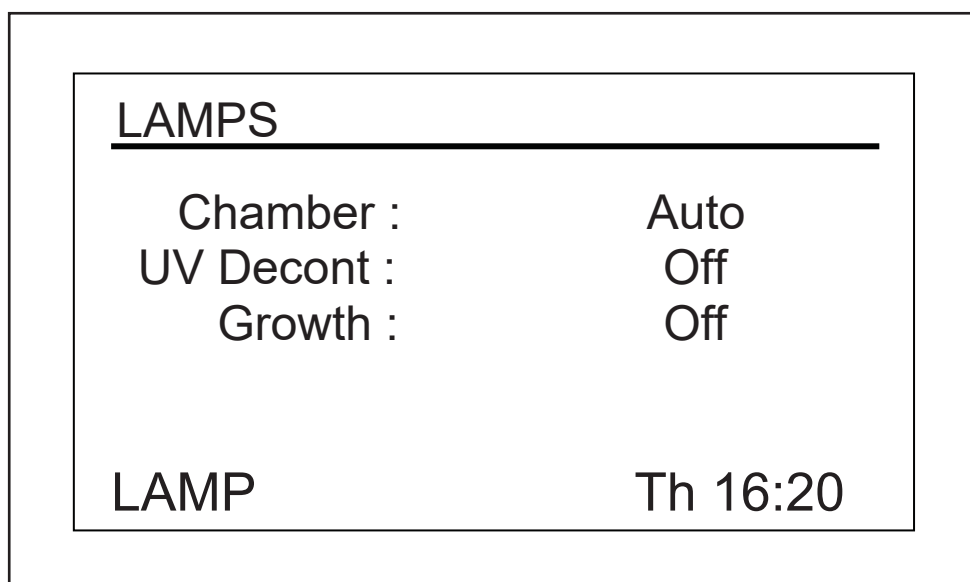

Fig. 9-6: Lamps screen
In this screen (see Fig. 9-6 on p. 56), you can turn the chamber light (*Chamber*), the optional UV germicidal (decontamination) lamp (*UV Decont*) and the optional photosynthetic growth lamps (*Growth*) on and off. *On* means the light is always on, and *Off* means the light is always off, unless you add additional programming (see *Program the shaker* on p. 60).
The current setting will flash (in the sample screen, we will use the *Chamber* light as an example (see Fig. 9-6 on p. 56)).
2. Turn the knob left or right until the desired mode setting appears (*Auto* in this example (see Fig. 9-6 on p. 56)).